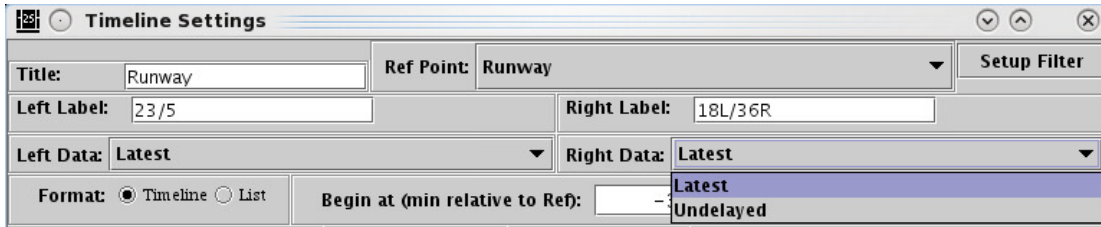

Figure 12. Timeline data.
Two types of data can be populated on the Timeline. Changing the type of data will result in different positions of Timeline data blocks (Figure 12).
**Step 1:** Click on the "Right Data:" drop-down list arrow (Figure 12).